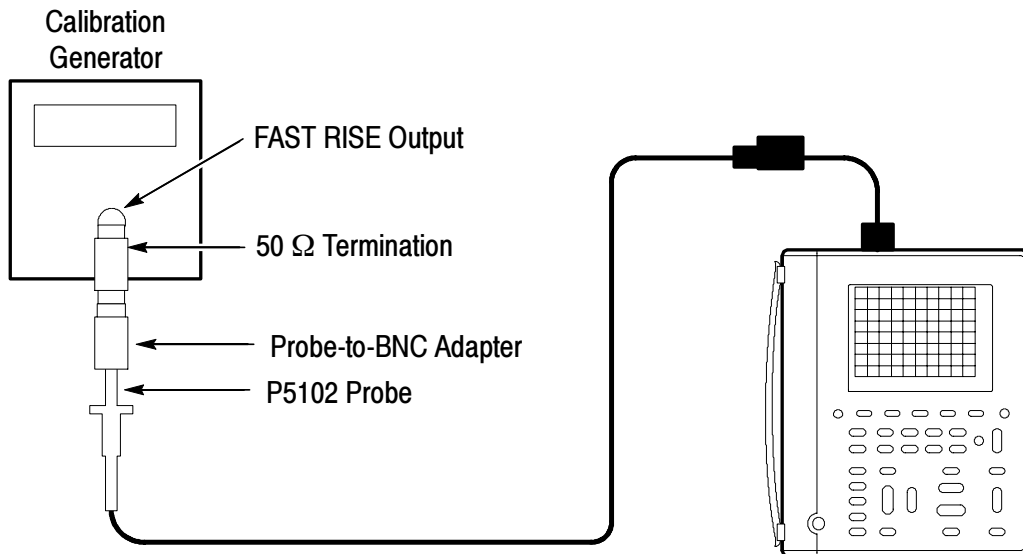

Figure 7: HF Compensation Setup
1. Connect a 50 Ω feedthrough termination to the positive going **FAST RISE** output of the calibration generator. See Figure 7.